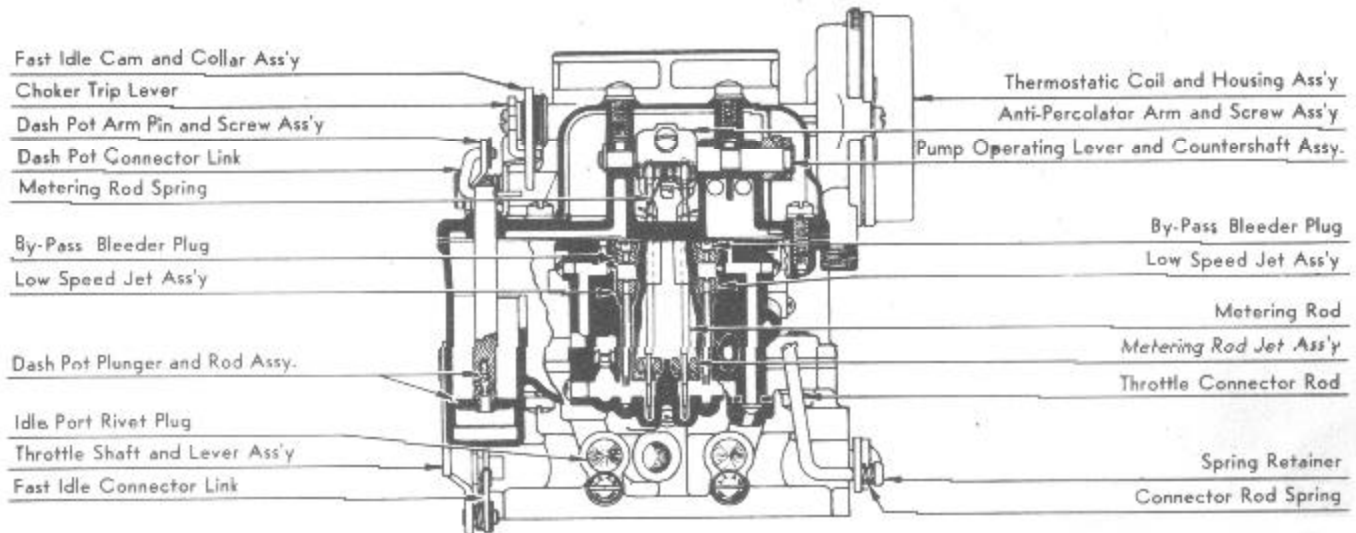

Figure 6--Carburetor Duplex - Models 41, 43
9. Remove both low speed jet bleeder plugs and both low speed jets (see Figure 6). (Use tool J 816 1 to remove low speed jets.)